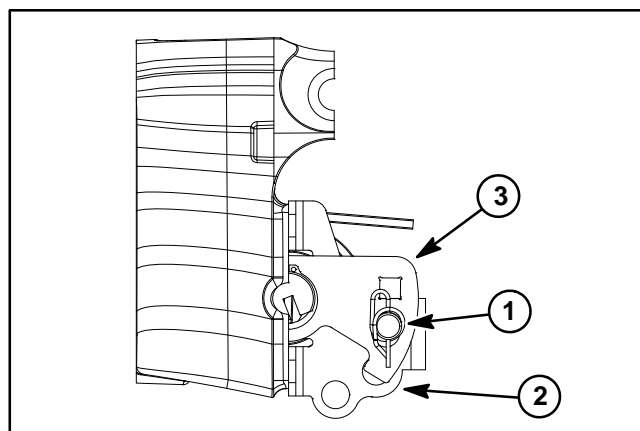

Figure 22
D. Install clevis pin (item 26) into upper holes in counterbalance mount (item 23) and hole in tensioner arm (item 16). Tensioner arm can be rotated with breaker bar (3/8" square drive) to align holes. Figure 22 shows correct location of clevis pin.